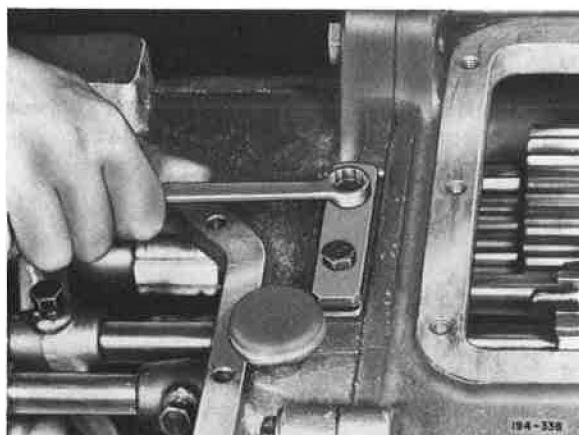

Figure 17. Removing Cover
15. Remove shifter rail poppet ball cover capscrews and cover. See Figure 17.